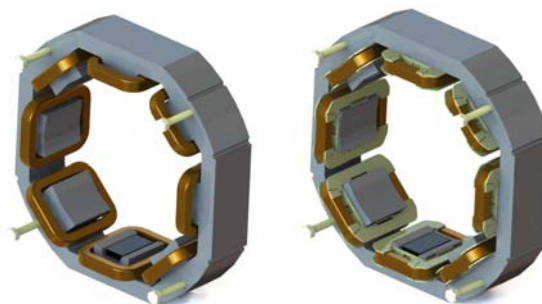

Figure 13.3: Exciter stator GTA / AG10
3. Remove the 4 fixing screws of the exciter stator according to Figure 13.3;